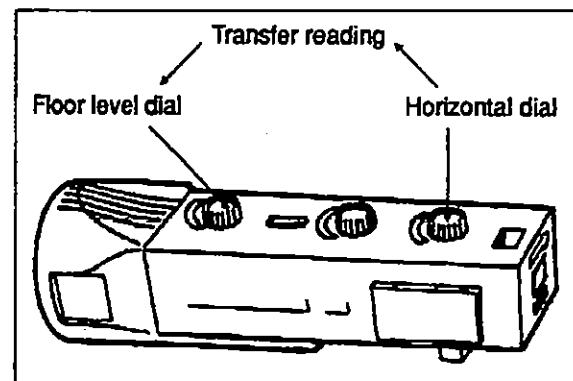

Figure 43
6. Set according to floor slope. Transfer positive (+) or negative (-) reading of horizontal dial to the floor level offset dial to offset floor slope on each aligner (see fig. 43). Push on the floor level offset dial to register reading.